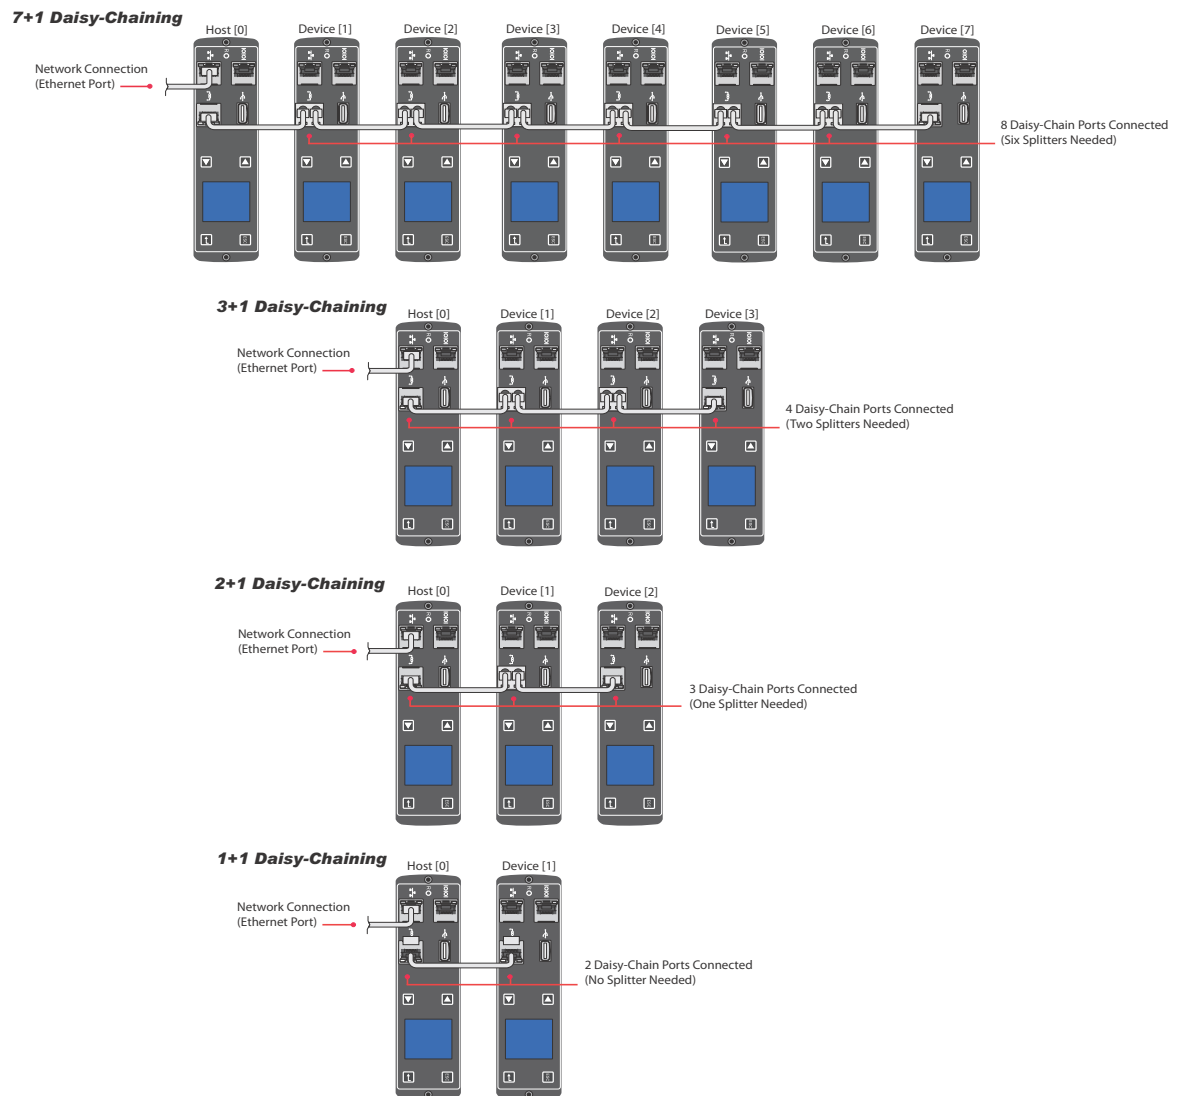
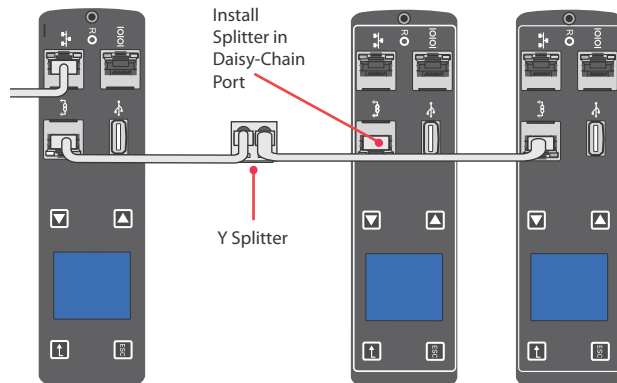

Figure 20. Locating the Daisy Chain Connector
Figure 21. Y Splitter in Daisy-Chain Port (2+1 Daisy-chaining Shown)
3. Connect one end of the cable to the Daisy Chain connector on one PDU. Connect the other end of the cable to the Daisy Chain connector on the other PDU as shown in Figure 20.
5. Insert a Y splitter in the Daisy Chain connector for all PDUs between the Host and the last PDU in the chain, as shown in Figure 20 and Figure 21.